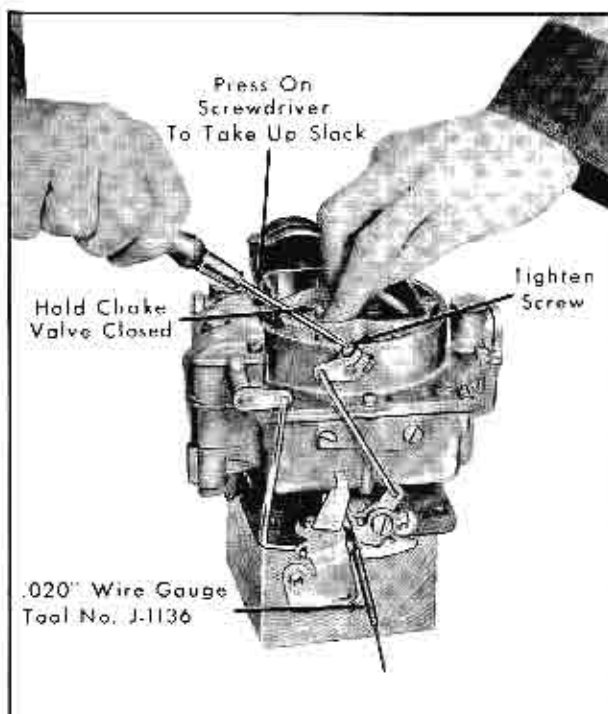

Fig. 12-36 Choke Rod Adjustment
2. Insert .020" wire gauge, Tool No. J-1136, between tang on fast idle cam and boss on throttle body casting. Hold this gauge in place by pressure of screwdriver exerted on choke lever clamp screw, as shown in Fig. 12-36. This will automatically take up all slack in the linkage.